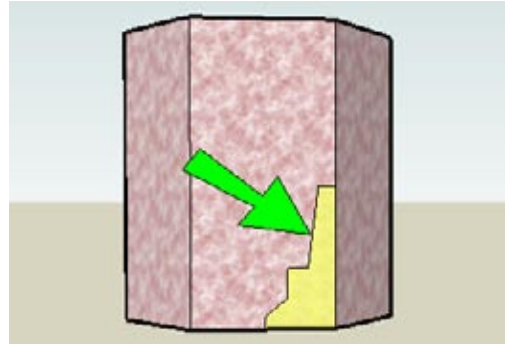

Figure 2-18
3. For the Follow Me face, you could add a vertical rectangle next to this column, as you did for the fireplace, but this is not so easy when none of the vertical faces is in a standard plane. So instead, draw the Follow Me face right on one of the vertical faces (Figure 2-18).